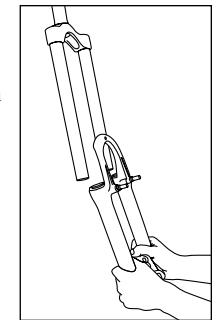

Fig. 7
7. Slide off one-piece lower tube assembly (see Fig. 7), oil will continue to drain from the upper tubes. Remove fork boots.